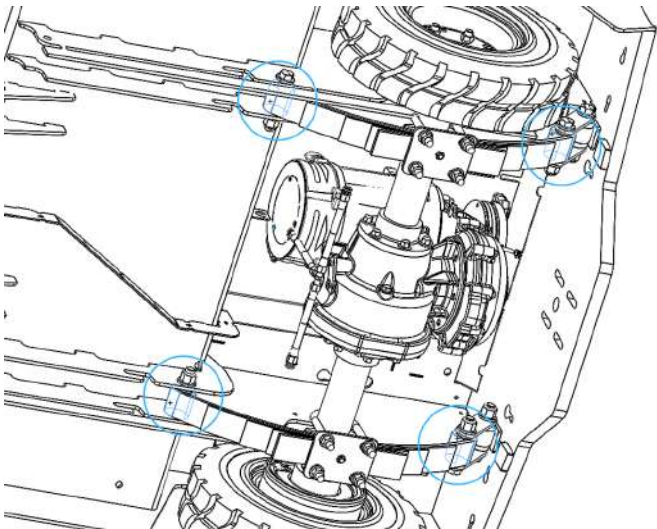

Figure 38. Rear Suspension Mounting Tabs.
- Rear suspension mounting tabs (3) (see Figure 38).